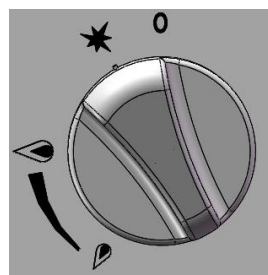

Fig. 3
②And then axial press the front air valve knob, left 30 degrees, to the fire position★ (Fig. 3).
③At the fire position, completely press the knob, and press the button of the piezo igniter with another hand simultaneously. Keep pressing the knob about 10-15 seconds, and observe stability of fire.
④If the fire is not lit, please repeat the above steps until the fire is ignited.
①When the control knob is rotated to the fire position★ (Fig. 3), the main fire burner flame is extinguished, but the pilot light will continue to work.
②Axial press the knob to rotate knob clockwise continually, so that the direction of the knob on the "0" position, at this time, the fire extinguished, the valve closed.